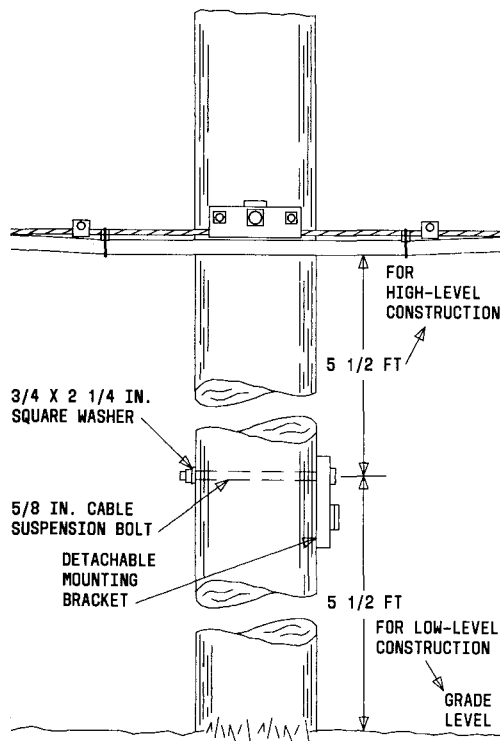

Fig. 5—Bolt Detachable Mounting Bracket to Pole or Stub Pole
3.02 In high level construction, locate the through bolt which secures the detachable mounting bracket a minimum of 3 feet 6 inches (maximum 5 feet 6 inches) below the lowest suspension strand (Fig. 5). The bottom of the terminal shall not be less than 10 feet above a sidewalk or less than 15 feet above a driveway.